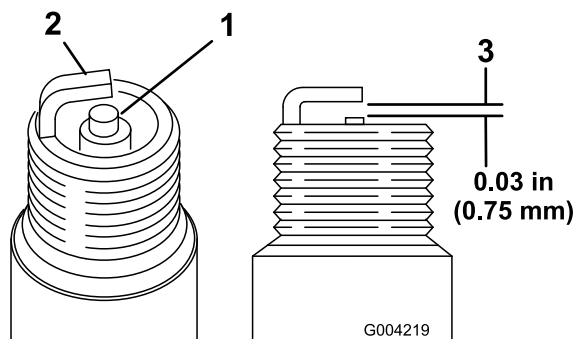

Figure 37
1. Look at the center of both spark plugs (Figure 37). If you see light brown or gray on the insulator, the engine is operating properly. A black coating on the insulator usually means the air cleaner is dirty.
2. Check the gap between the center and side electrodes (Figure 37).
3. Bend the side electrode (Figure 37) if the gap is not correct.